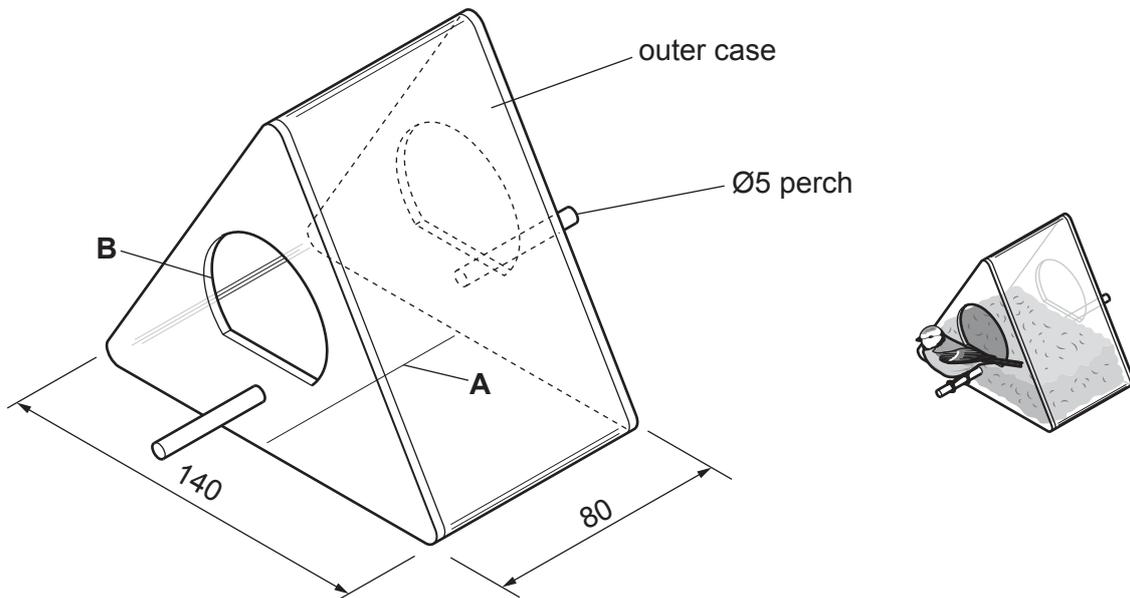

Fig. 13.1
- 13 Fig. 13.1 shows a bird feeder made of 5 mm thick clear acrylic. The bird feeder has an outer case made from one length of acrylic folded and joined at A. The bird feeder has an identical front and back, each joined to the edges of the outer case.